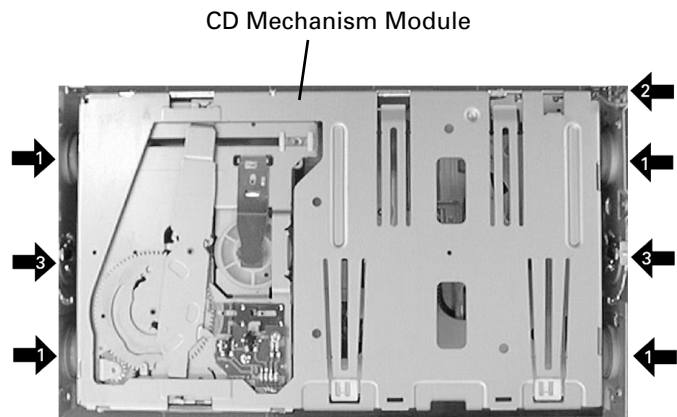

Fig.5
- ➡1 Remove the four dampers(Fig.5).
- ➡2 Disconnect the connector(Fig.5).
- ➡3 Remove the two springs(Fig.5).